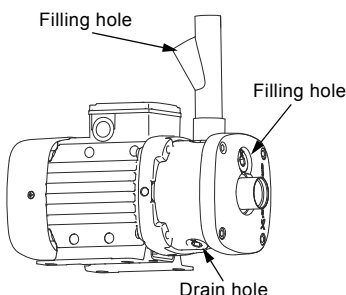

Fig. 11 Position of filling holes and drain hole
4. Remove the filling plug in the pump. See fig. 11.